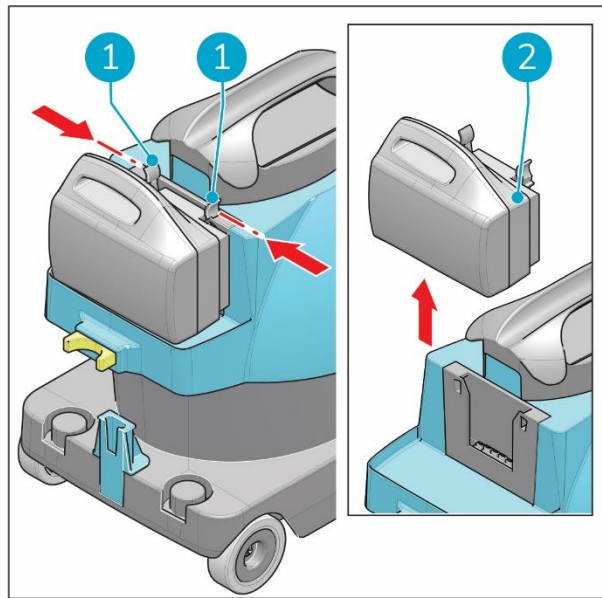

Figure 19
1. Press the plastic clips of the battery (Figure 19, pos 1) slightly towards each other.
2. Pull out the battery (Figure 19, pos 2).